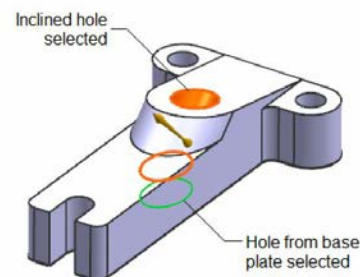

Figure 13-105 Entities selected to modify the inclined hole
- e. Align the inclined hole using the **Replace Face** tool, refer to Figure 13-105.
2. Select the hole from the base plate, refer to Figure 13-105.
3. Choose the **Face** button from the **Replacement Face** rollout and select the face of the inclined hole, refer to Figure 13-105. Next, choose the **OK** button from the dialog box.